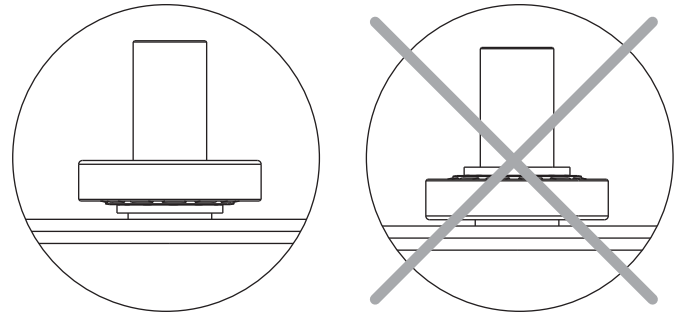

Fig. 4 Orienting Bearings
- 6 Ensuring the correct orientation slide bearings on pivot pins (fig.4). Ensure bearings are greased (for more information see page 6).